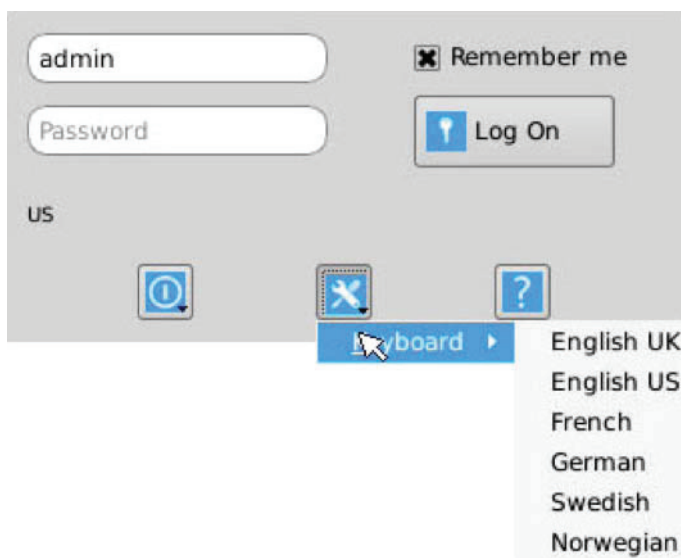

FIGURE 12-3. SETTING SYSTEMS KEYBOARD TYPE
- System Preferences: This button has a drop down menu that allows the user to define system preferences for the InvisaPC Receiver. Figure 12-3 shows how the keyboard type can be selected.